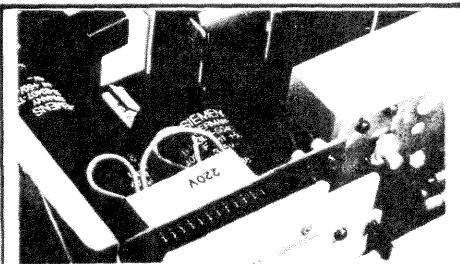
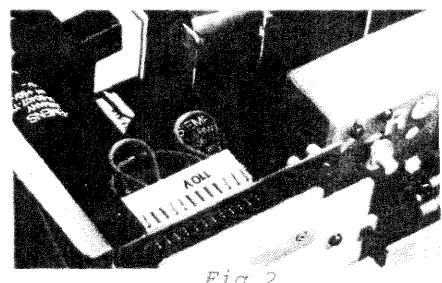

Fig. 1
Fig. 2
4. Pull out the "POWER SELECTOR" and re-insert it as illustrated in the fig. 1 or fig. 2.
4. Retirer le "SELECTEUR DE TENSION" et re-introduire le selon la fig. 1 ou la fig. 2.